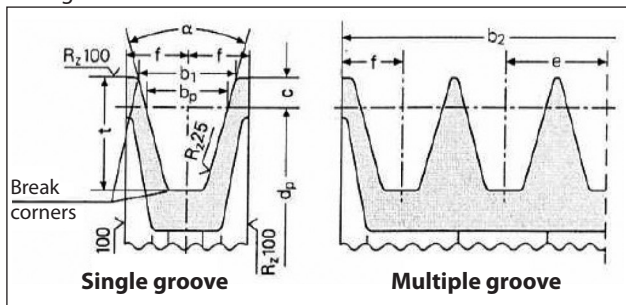

Fig. 9
- a) Use pulleys with V-belts with the size of the groove required/recommended by the manufacturer of belt used. In the absence of directions, follow Fig. 9 and the table in Fig. 10.